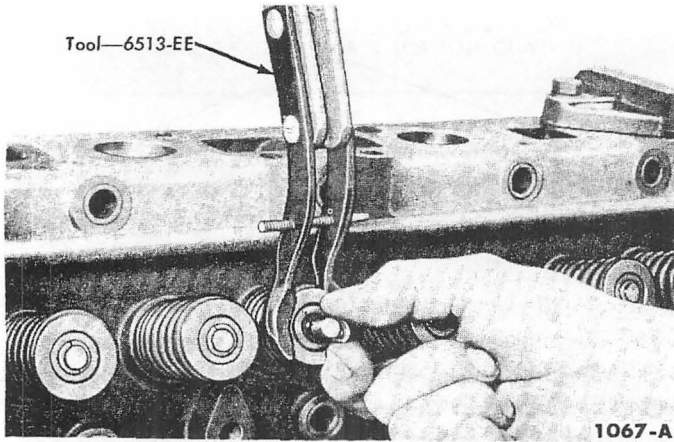

Fig. 17—Valve Stem Lock Removal or Installation
2. Compress the valve spring (Fig. 17), then remove the valve retainer locks and release the spring. Remove the sleeve, spring retainer, spring, stem seal, and valve. Discard all valve stem seals. Identify all valve parts.
2. Install the valve spring, then install the valve spring retainer, and sleeve. Compress the spring, and install the retainer locks (Fig. 17).